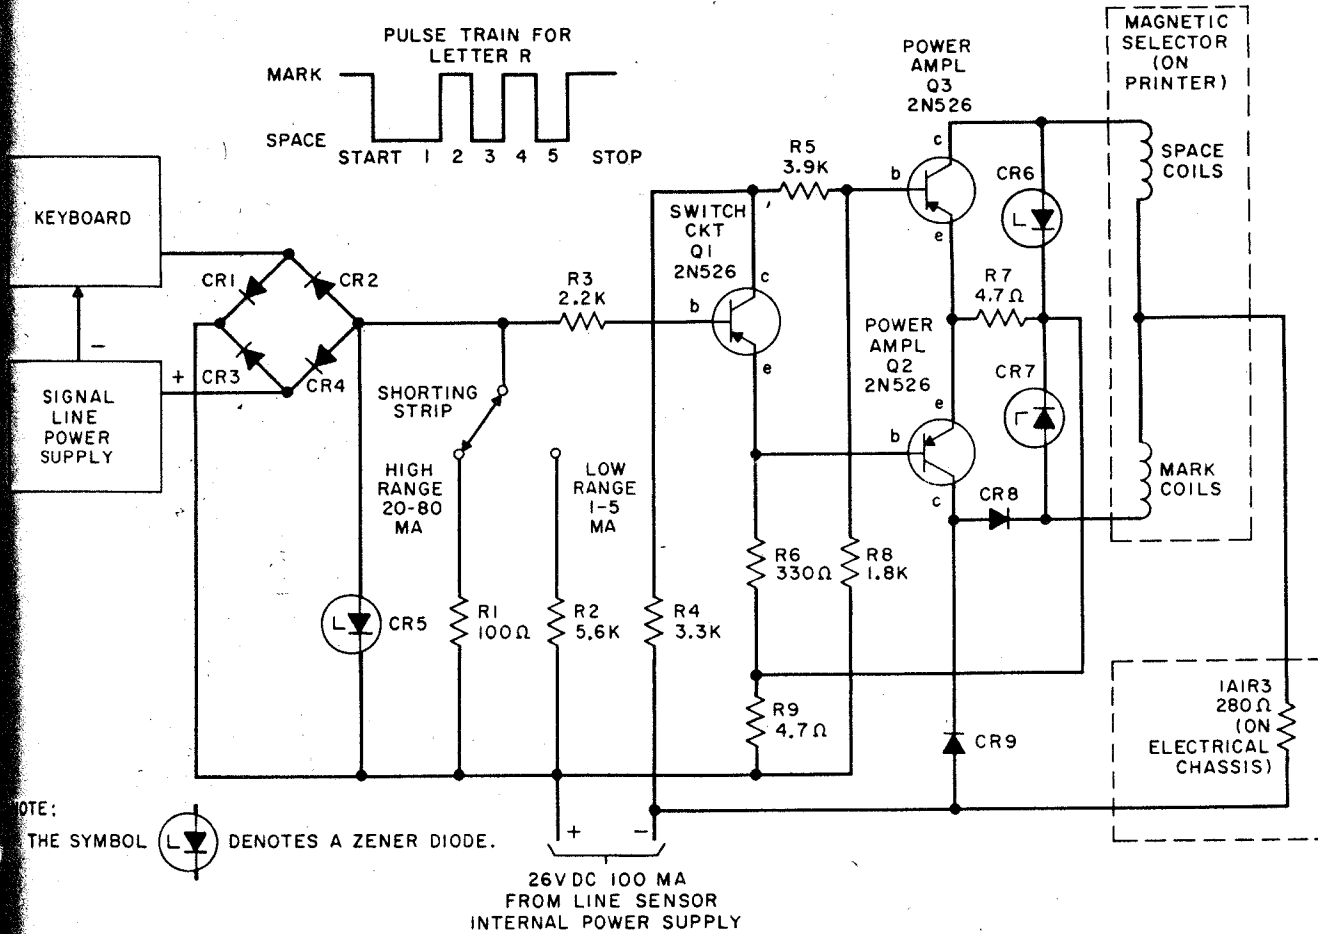

Figure 4-10. Line Sensor 1A3 and 1A6, Simplified Schematic Diagram
(2) SIMPLIFIED SCHEMATIC DIAGRAM DISCUSSION. (See figure 4-10.) — Figure 4-10 illustrates the line sensor circuit condition when receiving the letter R. The letter R pulse train consists of spacing pulses (absence of signal and no current) on start, 1, 3, and 5 and marking pulses (presence of signal and current) on 2, 4, and stop.